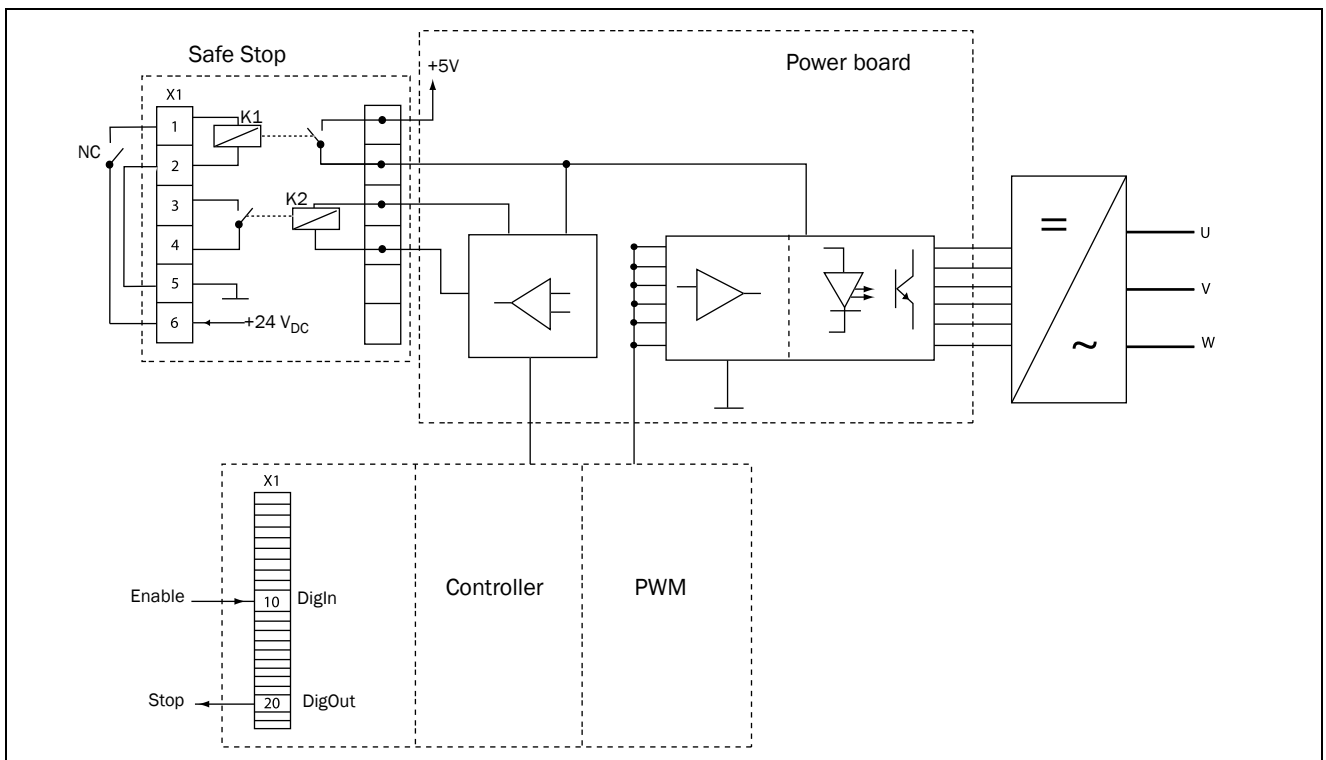

Fig. 122
- "Inhibit" input, terminals 1 (DC+) and 2 (DC-) on the Safe Stop option board should be made active by connecting 24 V_{DC} to secure the supply voltage for the driver circuits of the power conductors via safety relay K1. See also Fig. 122.
- High signal on the digital input, e.g. terminal 10 in Fig. 122, which is set to "Enable". For setting the digital input please refer to section 11.5.2, page 126.
terminal 20 in the example Fig. 122, please refer to section 11.5.4, page 132 [540].